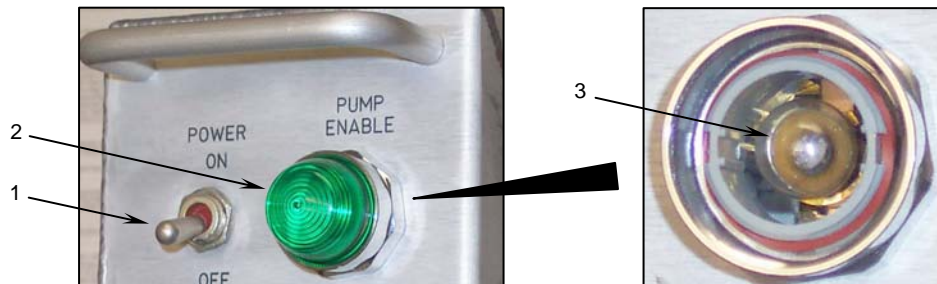

Figure 1. Replacing the Bulb in the Fill Pump Assembly Indicator Light Assembly.
1. Switch off the sink fill pump assembly power switch (**Figure 1, Item 1**).
2. Using your fingers, unscrew and only remove the green lens (**Figure 1, Item 2**) from the front of the indicator light assembly.
3. Remove the bulb (**Figure 1, Item 3**) by pushing it in with the tip of your finger and rotating it counterclockwise.